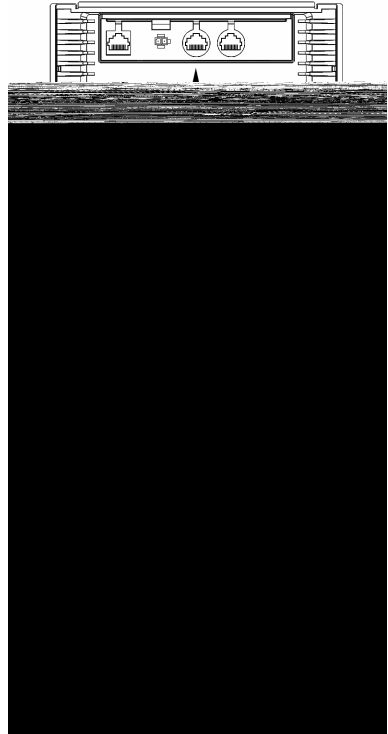

Figure 5: RS232 or
2. Connect the PowerLink cable to the 10-pin RS232/Light Pen interface jack. It is the 1st **round** opening from the left side of the MS7320 (see figure 5).